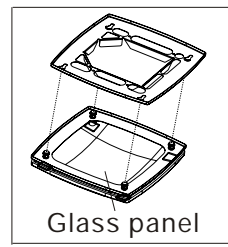

Fig.21
7. Insert the bolt of Glass panel to four holes of the motherboard, push the panel in the indicated direction, wedge the panel to the motherboard. (Fig.21)